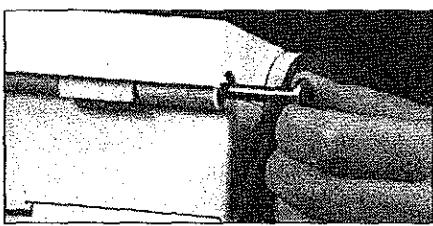

Figure 8
5. After removing both snap rings, pull out both hinge pins as illustrated in Figure 8.
5. Insert the two hinge pins (see Figure 8), and replace the snap rings.